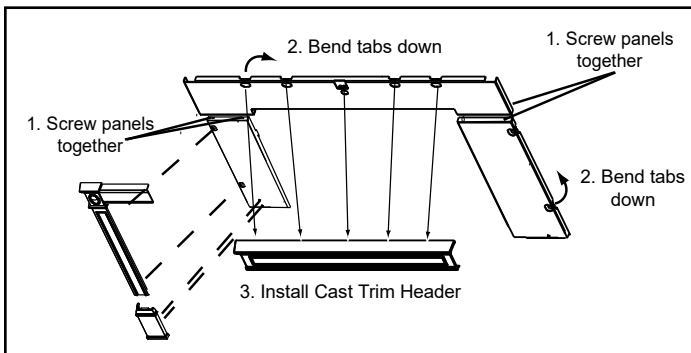

Figure 20.1
4. Now bend the tabs down toward the backside of the panel set, 5 on top and 2 on each leg. Leave the panel set face down (**Figure 20.1**).